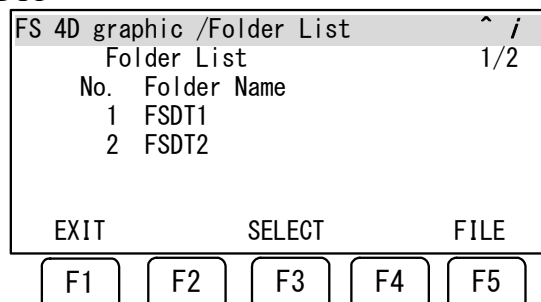

Fig. 9.2 (b) Folder List screen
Specify the name of a folder in the above device that contains force data files. Pressing F4 (FOLDER) displays a list of folders in the device in ascending order of name as shown in Fig. 9.2 (b). Moving the cursor to a folder name and pressing F3 (SELECT) displays the screen shown in Fig. 9.2 (a) again and automatically rewrites the folder name. You can also input or change the folder name directly.
- Up to 100 folders can be displayed in the screen shown in Fig. 9.2 (b). If the device contains more than 100 folders or no folder, an alarm is issued.
Specify the name of a force data file in the above folder. Pressing F5 (FILE) displays a list of files with extension DT in the folder in descending order of name as shown in Fig. 9.2(c). The descending order is used because a larger number is contained in the name of a newer force data file generated by the "force data log function". Moving the cursor to a data file name and pressing F3 (SELECT) displays the screen shown in Fig. 9.2 (a) again and automatically rewrites the data file name. You can also input or change the file name directly.